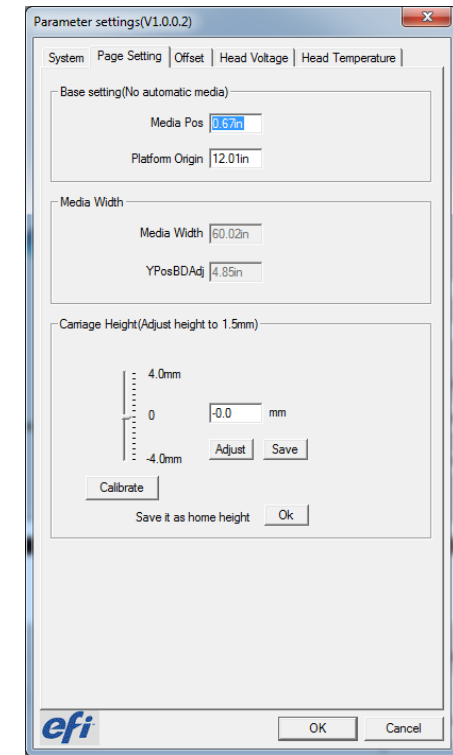

Figure 5-16: Page Settings tab
2. On the Page Setting tab of the Parameter window, press the **Calibrate** button. (See Figure 5-16.)